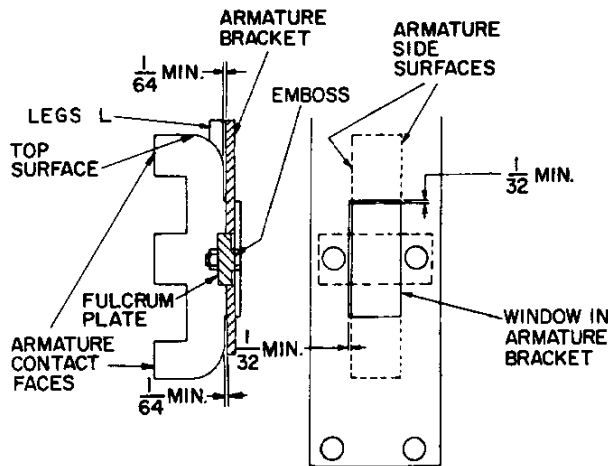
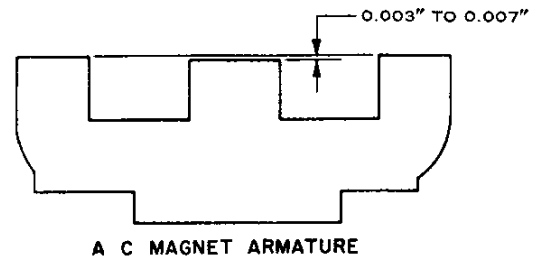

Fig. 29. Ac magnet assembly shown with contactor closed
Fig. 30. Ac armature
1. The top and side surfaces of the armature and stationary-magnet frame (see Fig. 29) must be aligned within 1/32 inch. More misalignment will allow the magnets to wear unevenly and must be corrected to give the proper alignment if quiet operation is to be achieved. If the magnet contact surfaces are worn and misaligned more than 1/16 inch, and the magnet is noisy, both the armature and stationary-magnet frame must be replaced. Magnets operating with excessive noise will reduce the life of their operating coils because the picked-up magnet will eventually draw excessive magnetizing current.
3. The armature in picked-up position must have a minimum of 1/64-inch spacing between it and its armature bracket (see Fig. 29). The fulcrum plate must always be assembled with its emboss toward its armature bracket per Fig. 29.
4. The armature bracket must be assembled to its shaft supporting bracket in such a manner that the armature has a vertical end play in its armature support of 1/32-inch minimum (see Fig. 29). The armature width is such that a side play of 1/32 inch exists. This freedom of the armature in all directions is necessary to allow it to seat properly against the magnet frame.
5. All three contact faces (see Fig. 29) of the magnet frame are machined in the same plane. The outside contact faces of the armature are machined in the same plane. All of these contact faces are machined very accurately with a good finish to allow satisfactory operation. The armature's middle leg is machined 0.003 to 0.007 inch below the plane of the outside leg (see Fig. 30). This machining was done to give magnet life without magnet operating noise.
1. Top surfaces of armature and stationary-magnet frame (see Fig. 29) must be aligned within 1/16 inch. Alignment is not so important as with ac magnets as noise problems are not encountered. Armature must be approximately centered laterally over stationary-magnet frame.
3. Armature in picked-up position must have a minimum of 1/64-inch spacing between it and armature bracket (see Fig. 29). Fulcrum plate must be always assembled with its emboss toward its armature bracket per Fig. 29.
4. The armature bracket must be assembled to its shaft-supporting bracket in such a manner that the armature has a vertical end play in its armature support of 1/32-inch minimum (see Fig. 29). Armature width is made so that a side play of 1/32-inch exists. This freedom of the armature in all directions is necessary to allow it to seat properly against the magnet frame.